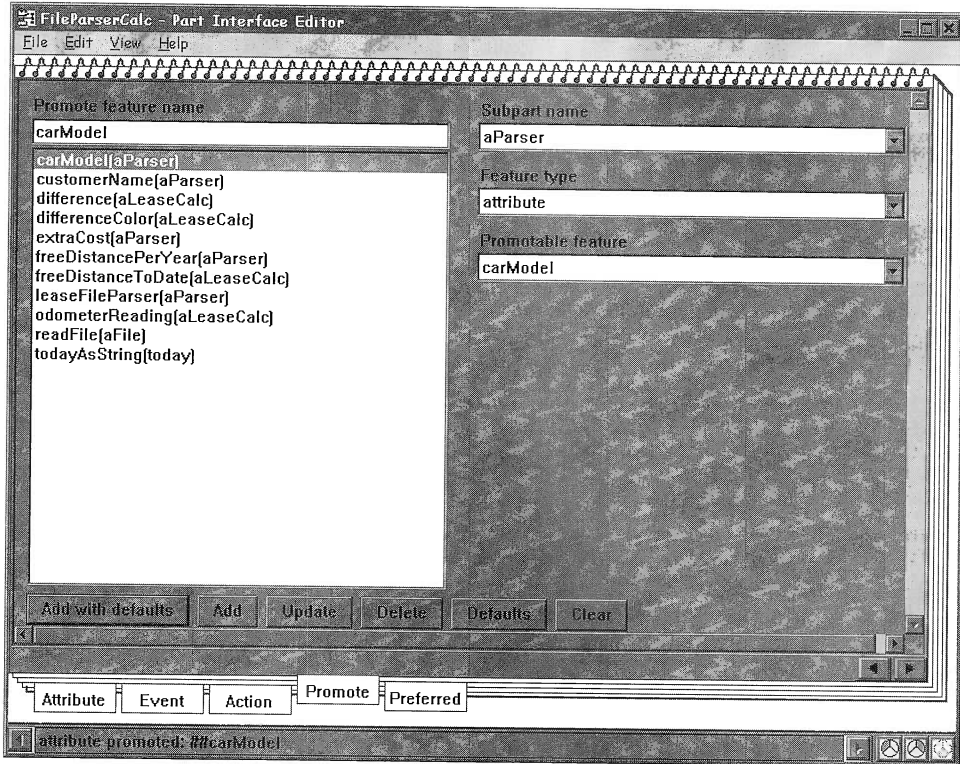

Figure 185: Promoting features on the FileParserCalc part
- ☐ Repeat the steps above to promote the features in Table 29 as shown in Figure 185.